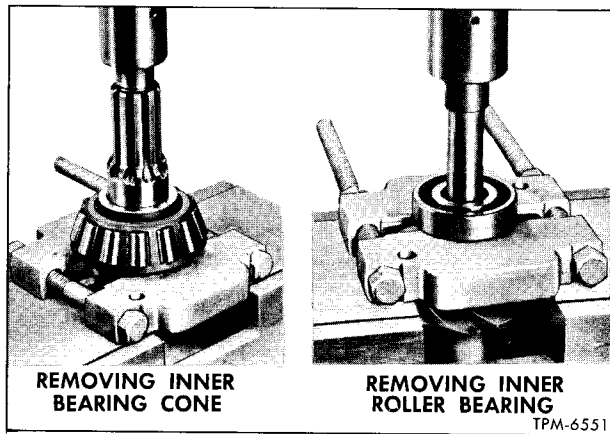
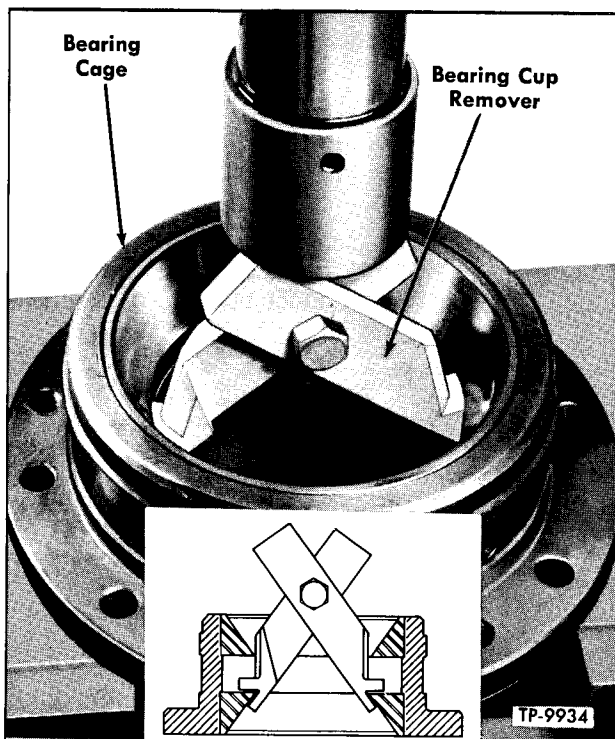

Figure 10—Pinion Bearing Removal
Figure 11—Pinion Cage Bearing Cup Removal
2. Remove nuts (20) and lock washers (19) which secure pinion cage (30) to differential carrier (16). Tap pinion cage to loosen and remove four tapered dowels (18).
3. Install two puller screws (1/2"-13x2-1/2") and tighten alternately and evenly to pull cage (30) out of carrier. Remove shim pack (17) from pinion cage studs (21). Tie shims (17) together so same shim pack may be used at reassembly.
4. Remove retainer ring (38) which secures inner bearing (37) on drive pinion (36); then remove inner bearing from drive pinion using universal puller (J-8176) and arbor press in manner illustrated in figure 10.
5. Clamp pinion in vise equipped with soft jaw plates. Remove cotter pin, nut (25), and washer (26) from drive pinion (36).
6. Place cage and drive pinion assembly in an arbor press and press drive pinion (36) out of flange (27) and pinion cage. Outer bearing (31) will remain in pinion cage (30).
7. Remove cap screws and lock washers attaching oil seal retainer (23) to pinion cage, then remove slinger.
8. Remove bearing adjusting spacer (33) from drive pinion (36) and tag for reassembly reference.
9. If necessary, inner bearing cone (35) can be removed from pinion with universal puller (J-8176) and arbor press as illustrated in figure 10.
10. Remove oil seal (29) assembly from pinion cage.
11. When inspection indicates necessity, cups (32 and 34) can be removed from cage, using remover (J-3940) in manner illustrated in figure 11.